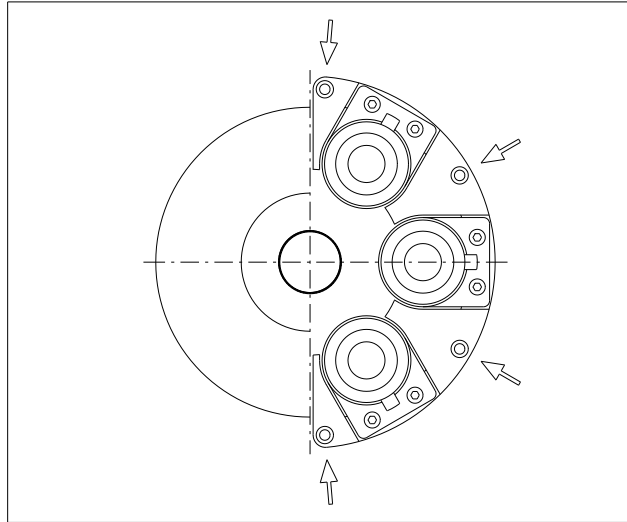

Figure 2
5. Mount the first mounting bracket, complete with brake unit, anchoring it to the flange of the machine with 4 screws (UNI 5931 M8x120) with tightening torque of 23 Nm (Figure 2).